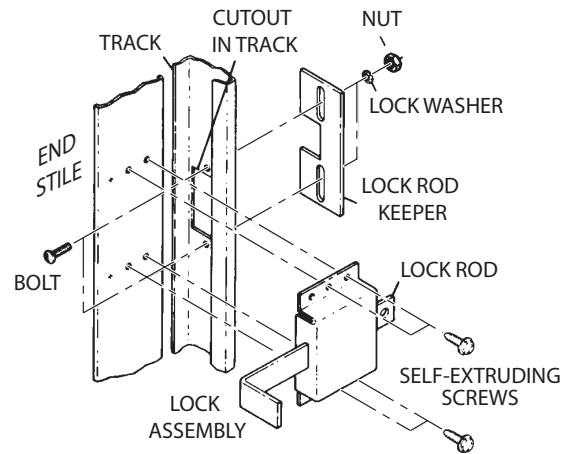

Figure 14
1. Center lock rod in track cutout. See Figure 14.